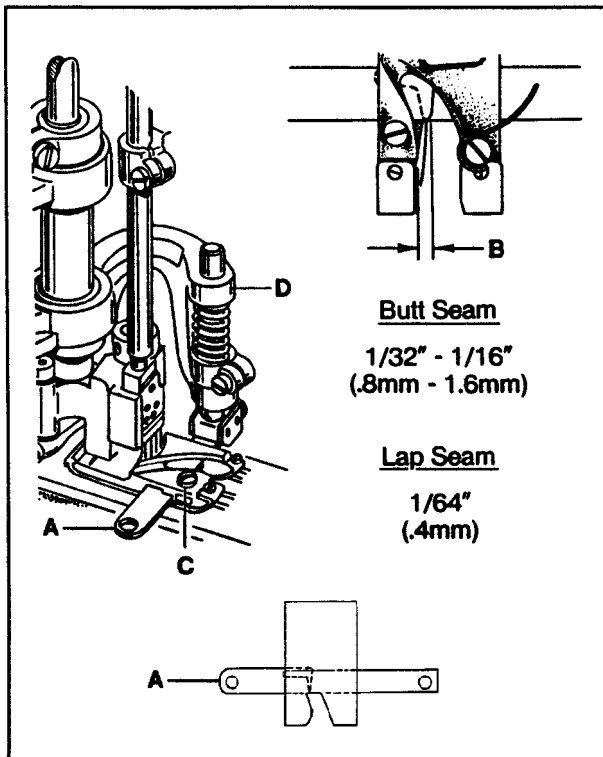

FIG. 29
To make the adjustments for a lap seam, position lower knife (A, Fig. 29) in the foot so it extends $1/64$ " (0.4mm) past the right side of the left toe (B) (approximately even with the first needle). Loosen screw (C) and move knife in or out as required. Tighten screw (C) securely.